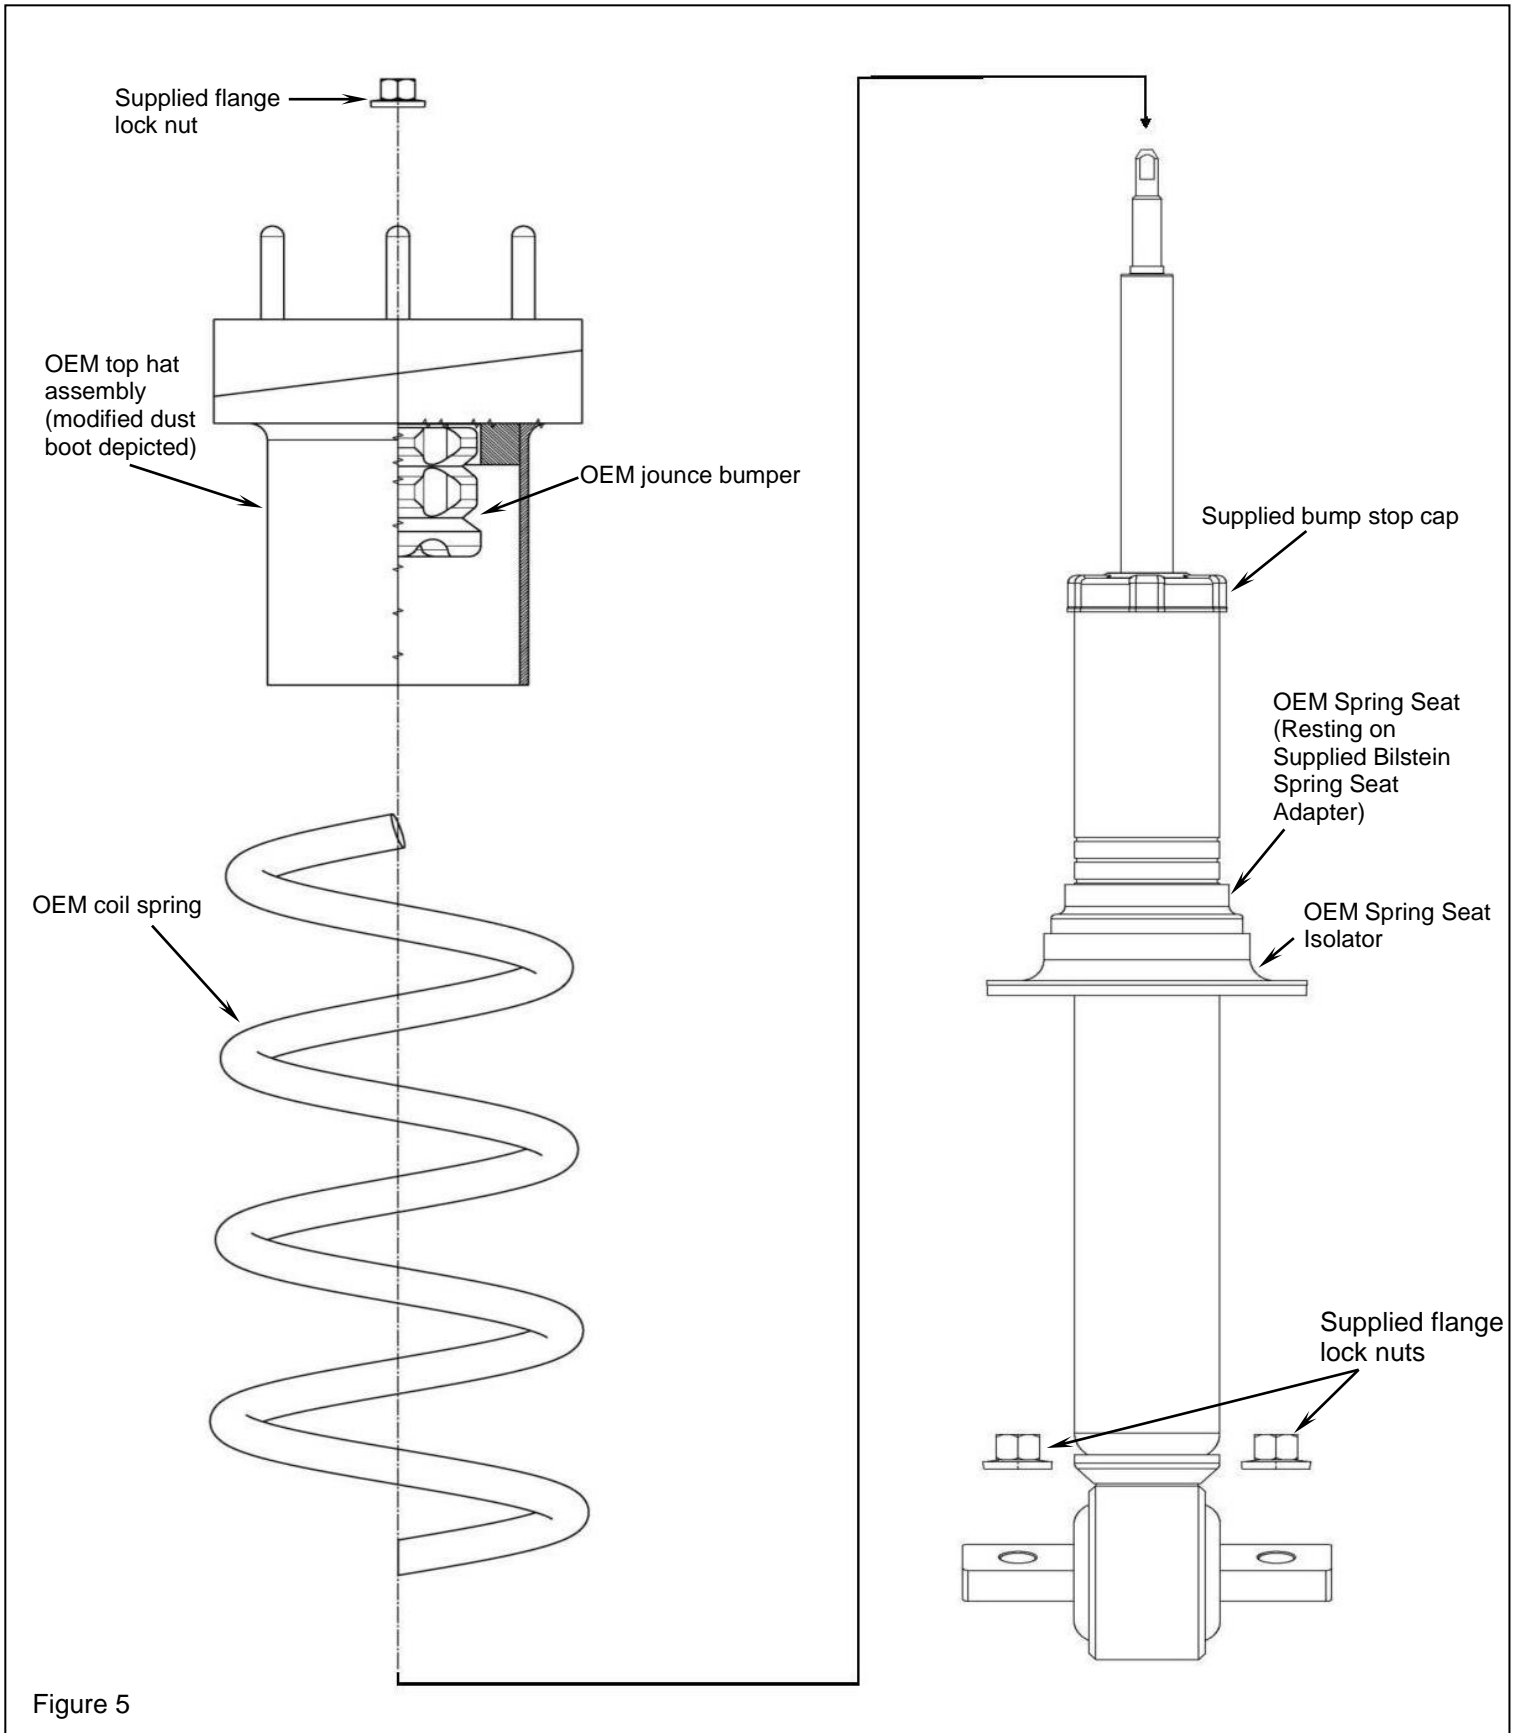

Figure 5
- G. Install the supplied bump stop cap onto the shock body as shown in Figure 5.
- I. Install the OEM top hat assembly (which includes the OEM dust boot, OEM top mount plate, and OEM jounce bumper) over the threaded stem on the new Bilstein shock and on top of the spring. Refer to Figure 5.